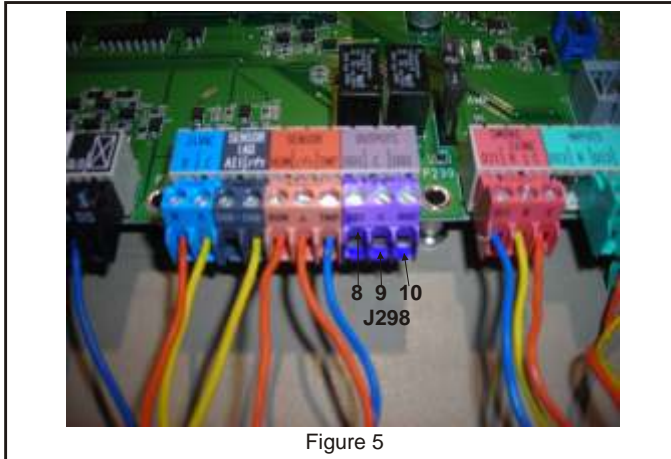

Figure 5
- E. Route wire through the control section down to the M2 Control board. Strip the wire ends 3/8" if they have not been pre-done. Place the Green wire under screw terminal at J298-8 (Purple connector). Do the same routine for Pink at J298-10 and Black to J298-9. **See Figure 5.**